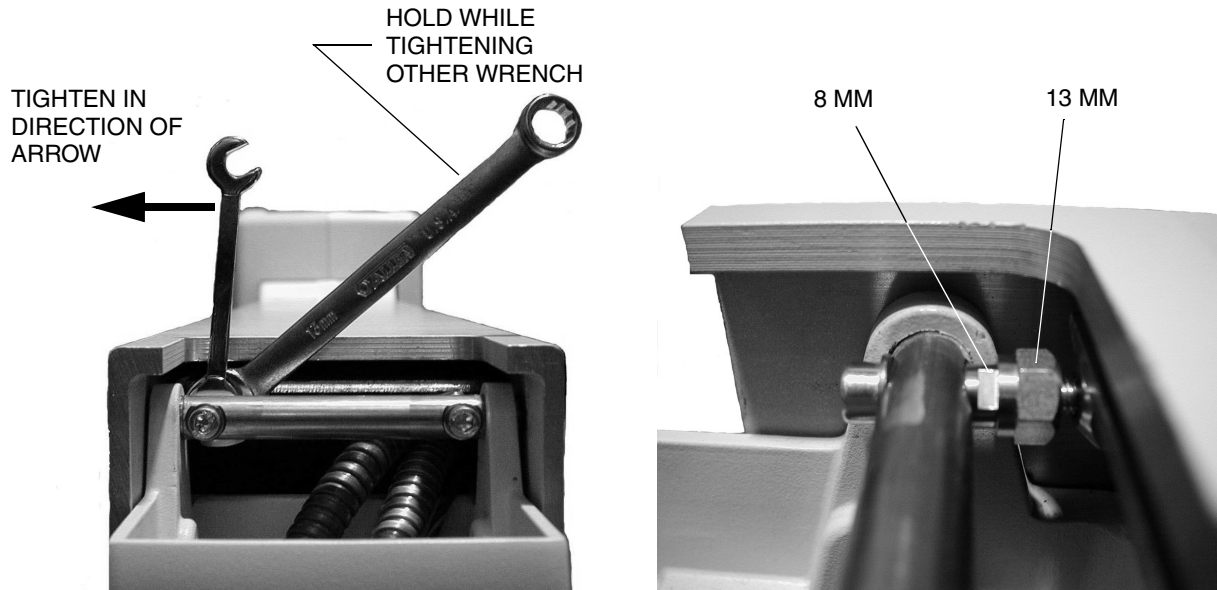

FIGURE 6. Bushing Adjustment
9. Tighten each bushing/nut assembly (Figure 6) to lock in alignment of the pendant head.